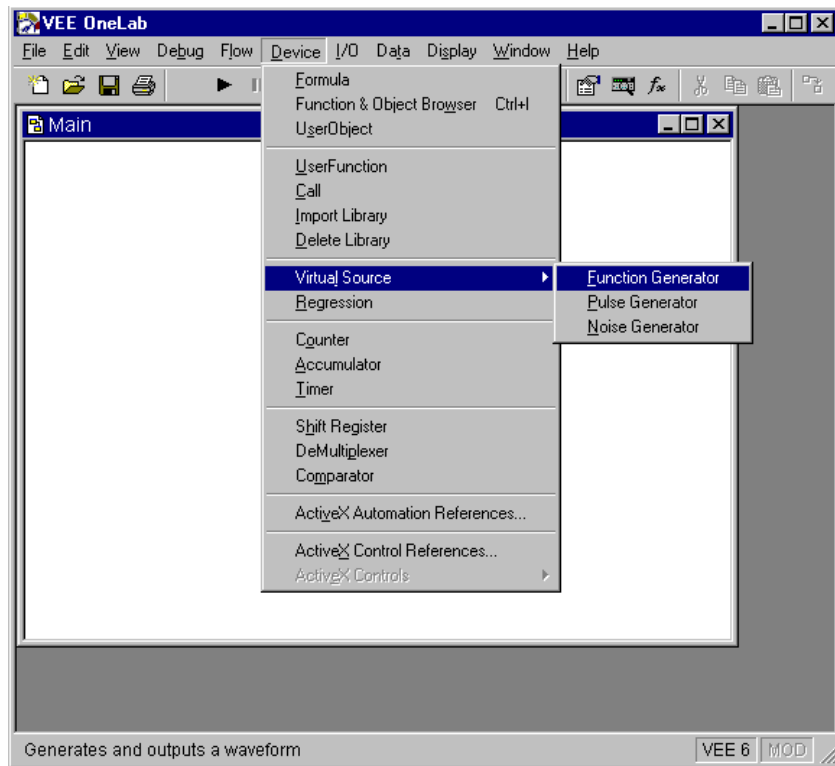

Figure 1-5. Adding Objects to the Work Area
1. For example, to add a `Function Generator` object to the work area, select `Device` ⇒ `Virtual Source` ⇒ `Function Generator` in the menu bar as shown in Figure 1-5.